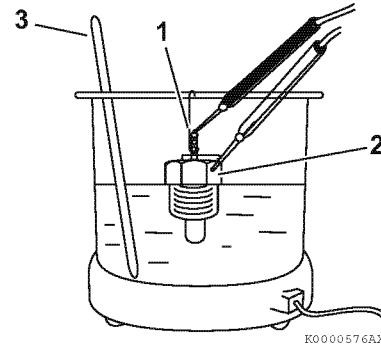

Figure 8-9
1. Check for proper operation of the temperature switch. Connect a continuity light or ohmmeter to the temperature switch. Connect one lead to the terminal of the switch (1, **Figure 8-9**) and the other lead to the metal portion of the switch (2, **Figure 8-9**).
2. Place the temperature switch and an accurate thermometer (3, **Figure 8-9**) in engine coolant.